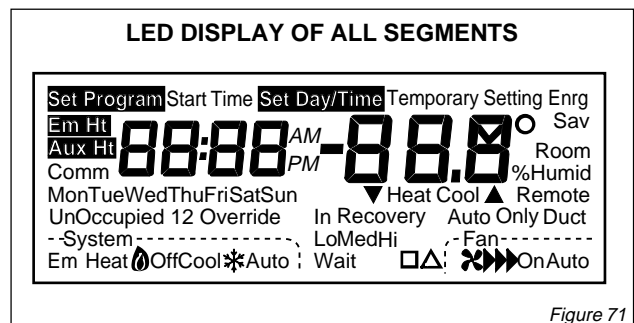

Figure 71
- To enter the Installer Setup, press and hold the key and both the increase and decrease keys until the first number is displayed. All display segments appear for approximately three seconds before the number is displayed. See figures 71 and 72.